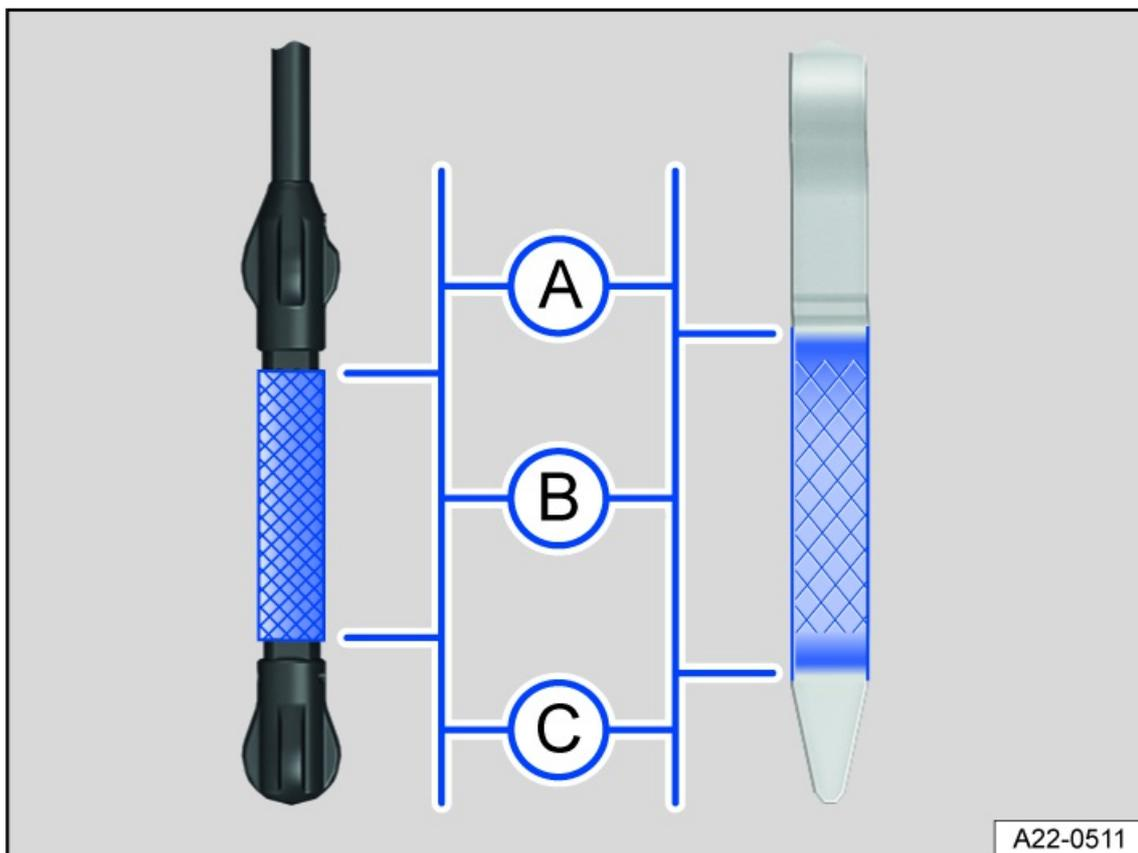

Fig. 170 Engine oil level markings on the oil dipstick (versions).
3. Remove the dipstick again and read the oil level on the dipstick as described below *fig. 170*:
When you are done adding oil, the oil level should be in the center of area *fig. 170* . The engine oil level must not be the area *fig. 170* .
5. If you accidentally add too much engine oil and the engine oil level is in area *fig. 170* , do not start the engine ⇒ . Contact an authorized Volkswagen dealer or authorized Volkswagen Service Facility for assistance.